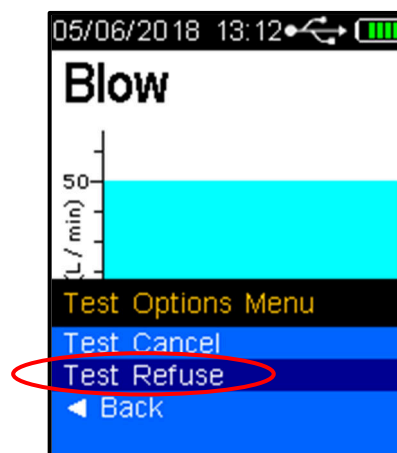

Figure 27 - Test Refuse Displayed
- Press the Down button to highlight *Test Refuse* (Refer to Figure 27).